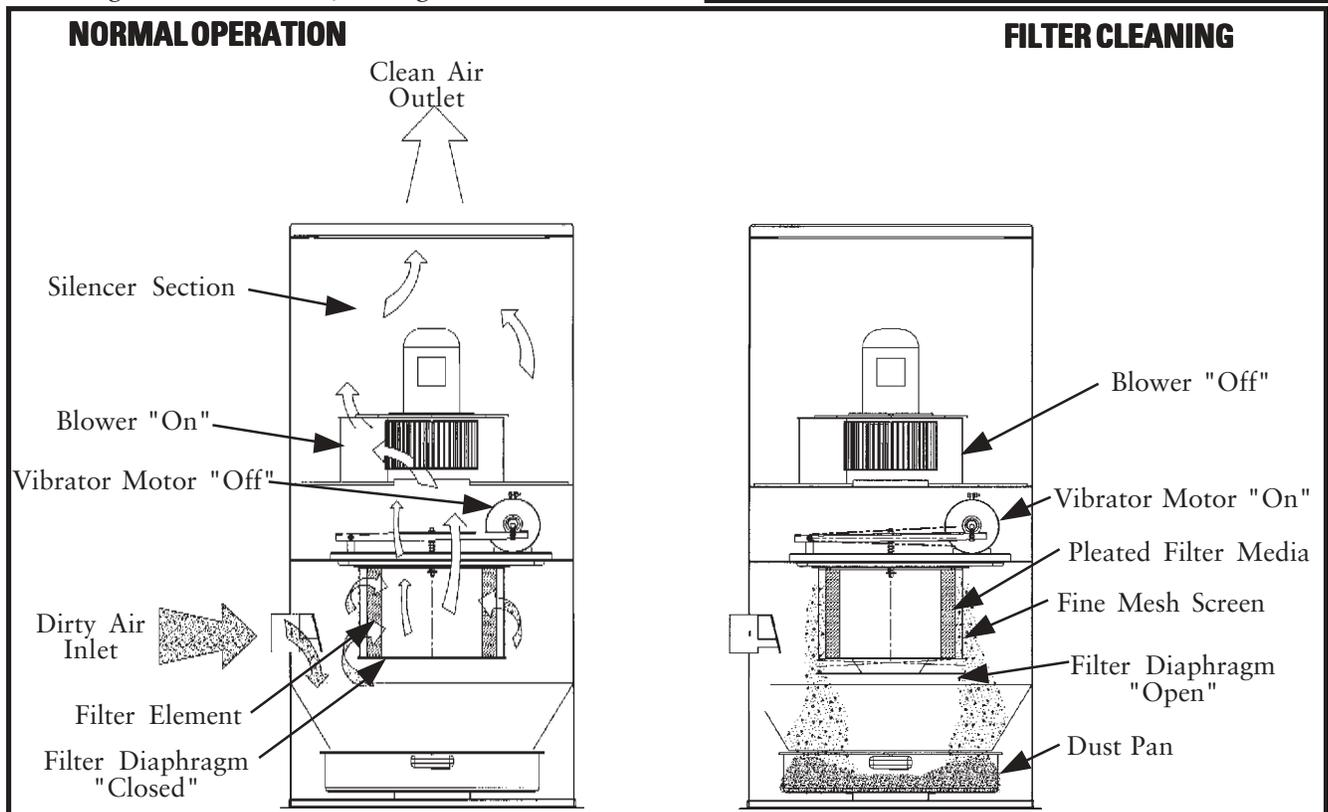

Figure 2
1.1 Operational Explanation (See Figure 2)
The control timer is automatically energized to start the cleaning sequence 60 seconds after the fan is shut off for the RVS. This pause allows the fan to run down. Note that there is a delay built into the timer. The main blower fan must run for 30 seconds with all doors and openings on the collector closed to start timing sequence. The vibrator motor starts and runs for a preset time of 30, 60 or 90 seconds, shaking dust from the filter cartridge. A diaphragm at the bottom of the filter cartridge opens after the fan is shut off, allowing fine dust particles collected on the filter media to escape. The dust falls down into the dust pan or optional hopper for disposal as shown in Figure 2.